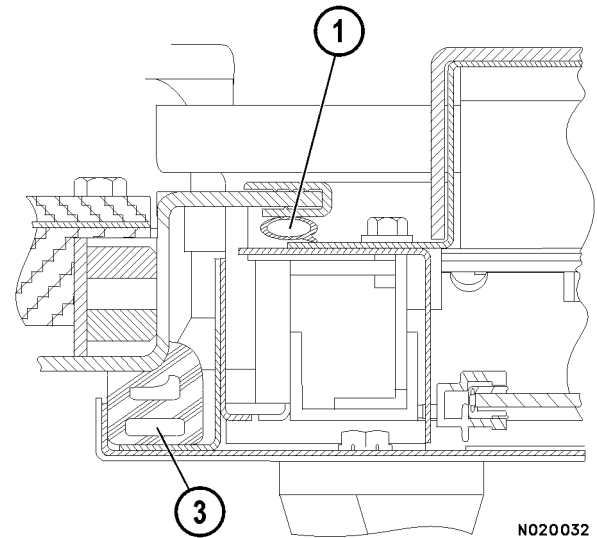
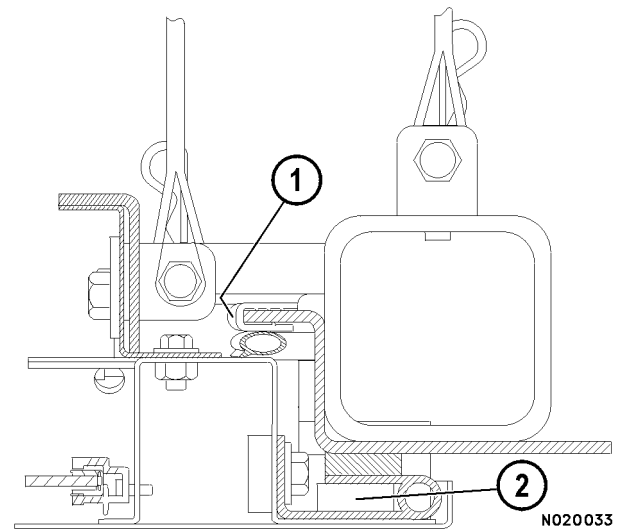

FIGURE 50-7. DOOR SEALS
FIGURE 50-8. DOOR SEALS
3. Install the seal so that the corners of the seal fit up into the corners of door frame (3, Figure 50-7).
4. Door hinge seal (2, Figure 50-8) is glued to the hinge. Use the same procedure as above for this seal.
1. Starting at the lower center of the door opening, pull up on one end of the seal. The seal should pull loose from the cab opening lip. Pull door opening seal (1, Figure 50-7 and Figure 50-8) loose all the way around the opening.